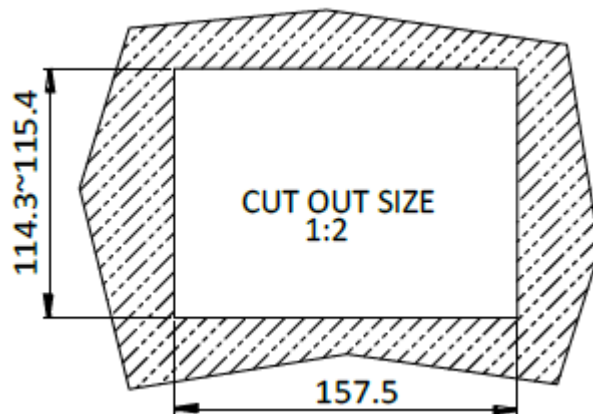

Figure 3-20: Panel Cutout Dimensions
- Step 2:** Cut out a section of the panel that corresponds to the rear panel dimensions of the PPC-F06B-BT. The recommended cutout sizes are shown below (Figure 3-20).